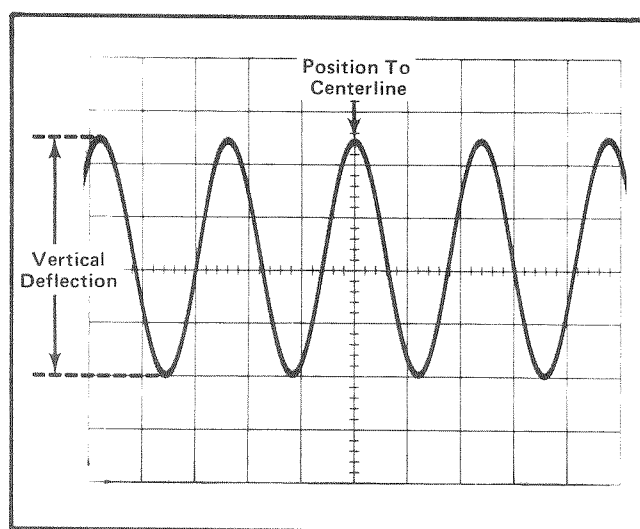

Fig. 2-2. Measuring the peak-to-peak voltage of a waveform.
6. Turn the 7A18 POSITION control so the lower portion of the waveform coincides with one of the graticule lines below the center horizontal line, and the top of the waveform is within the viewing area. With the time-base Position control, move the display so one of the upper peaks lies near the center vertical line (see Fig. 2-2).
EXAMPLE: Assume that the peak to peak vertical deflection is 4.5 divisions (see Fig. 2-2) using a 10X attenuator probe, and the VOLTS/DIV switch is set to 1 V.